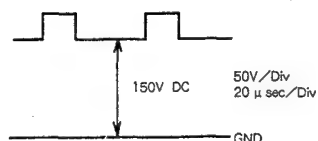

Fig. 2-1
- (1) Use the service switch (SW301) to set the TV to the service mode (single horizontal line).
- (2) Set the TV to the external input mode (no input).
- (3) Connect an oscilloscope to TP553 (on the NK C.B.).
- (4) Adjust SFR 552 (G-CUT OFF) so the voltage at TP553 is 150V DC. (See Figure 2-1)
- (5) Disconnect the oscilloscope.
- (6) Adjust the SCREEN VR (FBT) so that a horizontal line begins to appear at the center of the screen.
- (7) Return the service switch (SW301) to its original position.